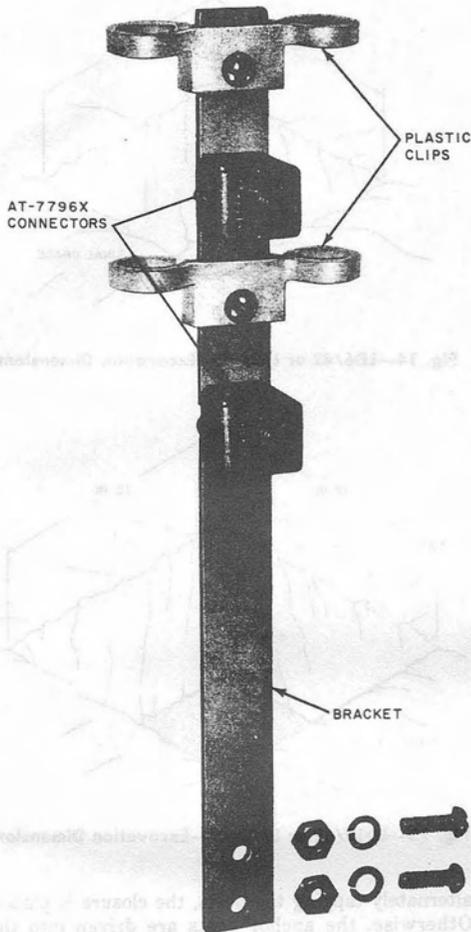

Fig. 11—Bracket Assembly
- (c) **Bracket Assembly (Fig. 11):** Used for terminating buried service wires at locations where protection is not required. It is equipped with two AT-7796X Connectors and two plastic clips.